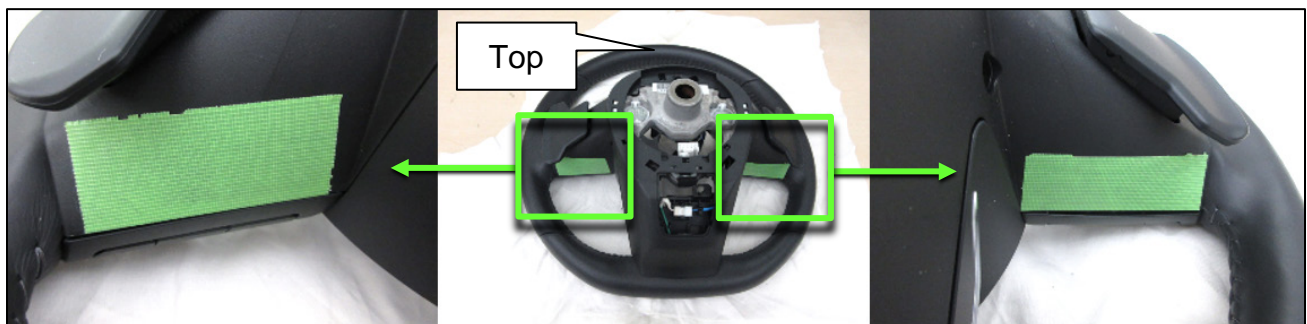

Figure 3
4. Place the steering wheel on a clean shop rag on a work bench to prevent damage to the steering wheel and apply Cloth tape to the finishers, as shown in Figure 3.